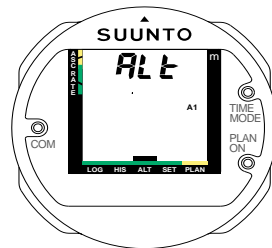

Fig.4.7 PERSONAL/ALTITUDE ADJUSTMENT SETTING, STEP 1
1. Activate the personal/altitude adjustment setting mode by connecting the TIME/MODE and COM contacts continuously. Release your fingers immediately when Alt appears on the display. Within a couple of seconds the present personal/altitude adjustment setting is shown (Fig. 4.7).